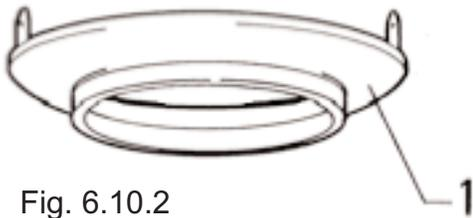

Fig. 6.10.2
6.10.2 - Removable cyclone separator (fig. 6.10.2)